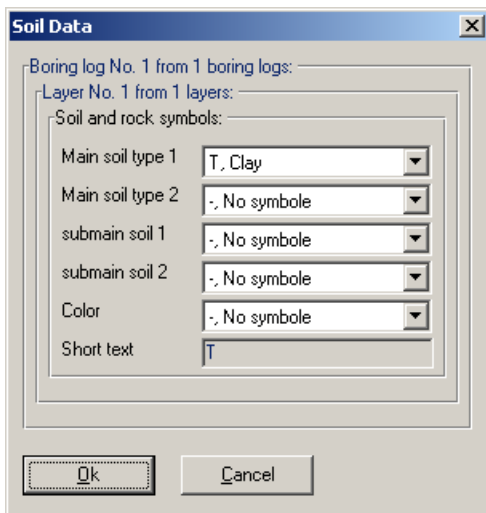

Figure 9-17 "Soil and rock symbols" dialog box
- Double-click on the soil symbol of the soil layer. The corresponding dialog box appears allowing you to modify the soil symbols of that layer, Figure 9-17
- Select "T, Clay" as the soil type in the "Main soil type 1" combo box in the dialog group box "Soil and rock symbols" in Figure 9-17. The color of the clay and a short text "T" according to the German specification code DIN 4023 will be automatically created